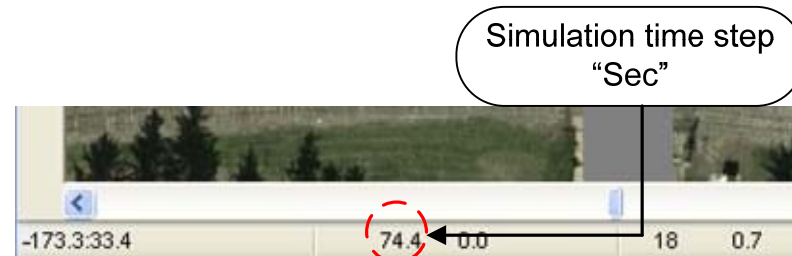

Figure 10 Simulation time step
- The simulation time clock is located on the lower bar of the VISSIM window. See Figure 10. The time clock is shown in seconds and tenths of seconds after the beginning of the simulation.